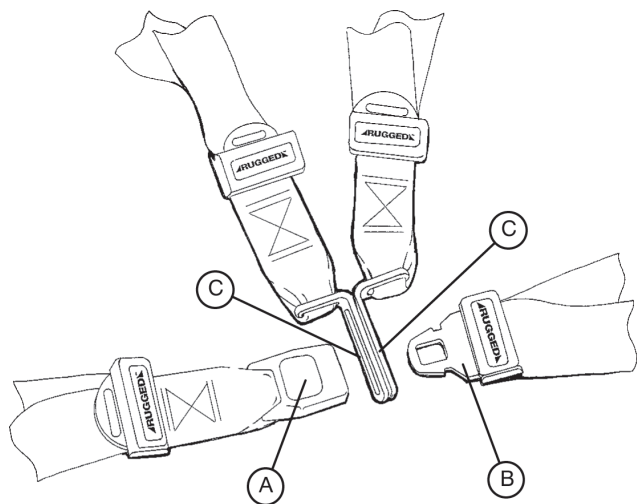

Figure 33 - Buckling the Safety Restraints
- **To open the restraint**, press the red button (A) on the front of the buckle “receiver”. This releases the buckle “tang” (B) which can then be pulled out of the receiver (see Figure 33).
- **To close the restraint**, push the tang into the receiver until a “click” is heard. When fastening the chest restraint ensure that the tang passes through both links (C) on the shoulder strap (see Figure 33).